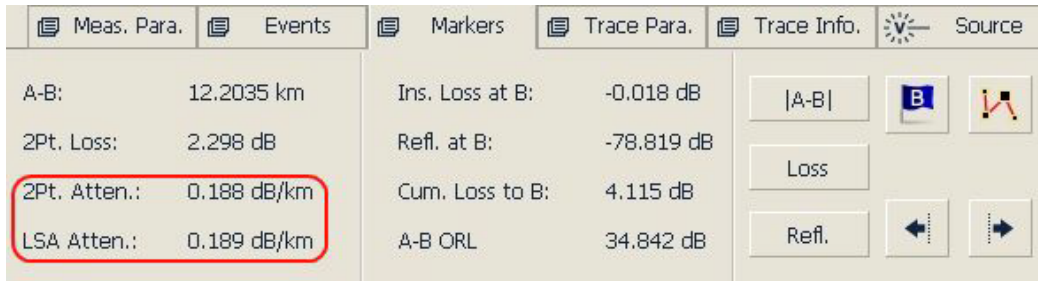

Fig. 12.5 View attenuation
- 4) Check 2Pt. Atten. (2-point attenuation) and LSA Atten. (LSA attenuation) values, as shown in Fig. 12.5.